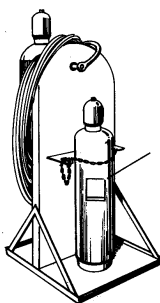

Figure 20.13
- Do not use slings or magnets for hoisting cylinders. Use a suitable cradle or platform (Figure 20.13)